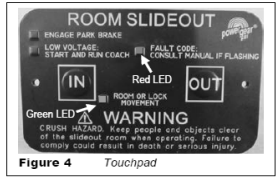

Figure 4 Touchpad
6. Press and hold the OUT button (Fig 4). To retract, press and hold the IN button. There will be a slight delay before the room begins moving.
The RED FAULT CODE LED (Fig 4) will flash a number of times corresponding to a specific fault code (refer to the Fault Code Chart).
The GREEN ROOM MOVEMENT LED (Fig 4) will flash GREEN a number of times corresponding to which motor has the associated fault.
- MINOR** faults can be cleared by pushing and releasing the **IN** or **OUT** buttons on the wall touchpad (Fig 4).
1. Remove the touchpad (Fig 4) from the wall.